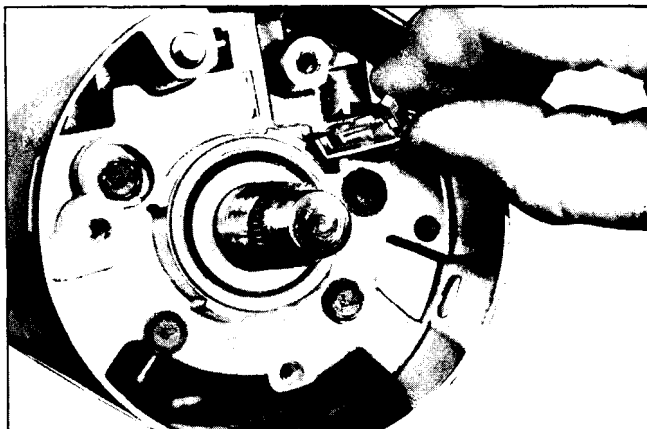

Fig. 9-30 Installing Buzzer Switch
2. Push switch and spring into hole with contacts toward the lock cylinder bore (Fig. 9-30).